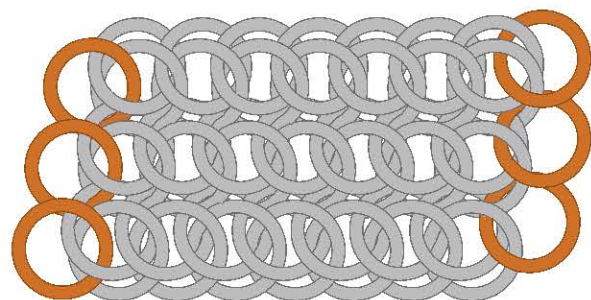
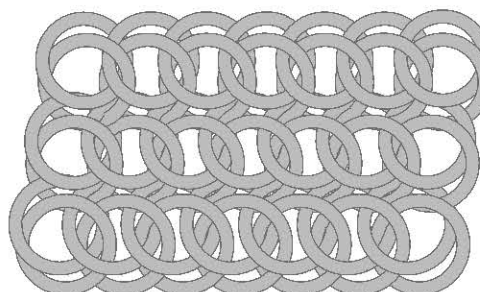

FIG. 13
FIG. 14
11. Repeat Steps 4 through 10 once more to make a 3-row sheet (FIG. 13).
13. Remove the single jump rings on the edges of the weave (as shown in FIG. 13) to even the weave (FIG. 14).